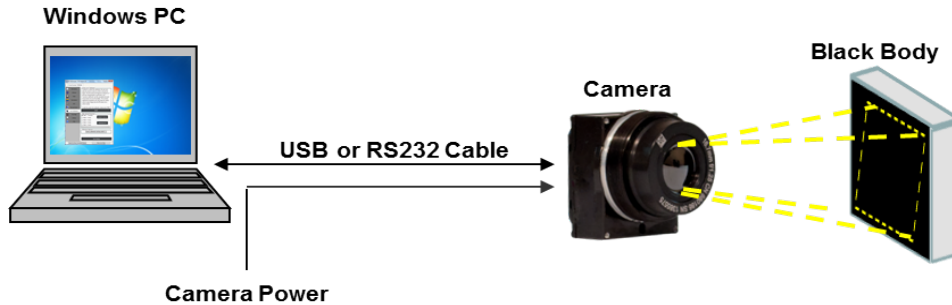

Figure 37. Lens Calibration Setup
4. Set-up. Figure 37 illustrates the hardware setup to perform a custom calibration. Connect the serial data cable (USB or RS232) and power the camera. Please allow the camera to sit for 30 minutes to stabilize its temperature before beginning the calibration process.